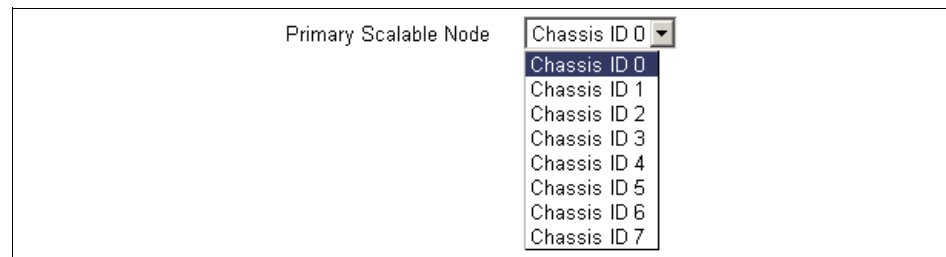

Figure 3-13 Primary node Chassis ID
6. Select an Chassis ID for the Primary Scalable Node in the drop-down menu, as shown in Figure 3-13. The Chassis ID uniquely identifies each RSA within a partition, although the actual value you choose does not represent any functional value. Within a scalable partition, only the following sets of Chassis IDs are valid: (0,1), (2,3), (4,5), (6,7), or (0,1,2,3) (4,5,6,7).